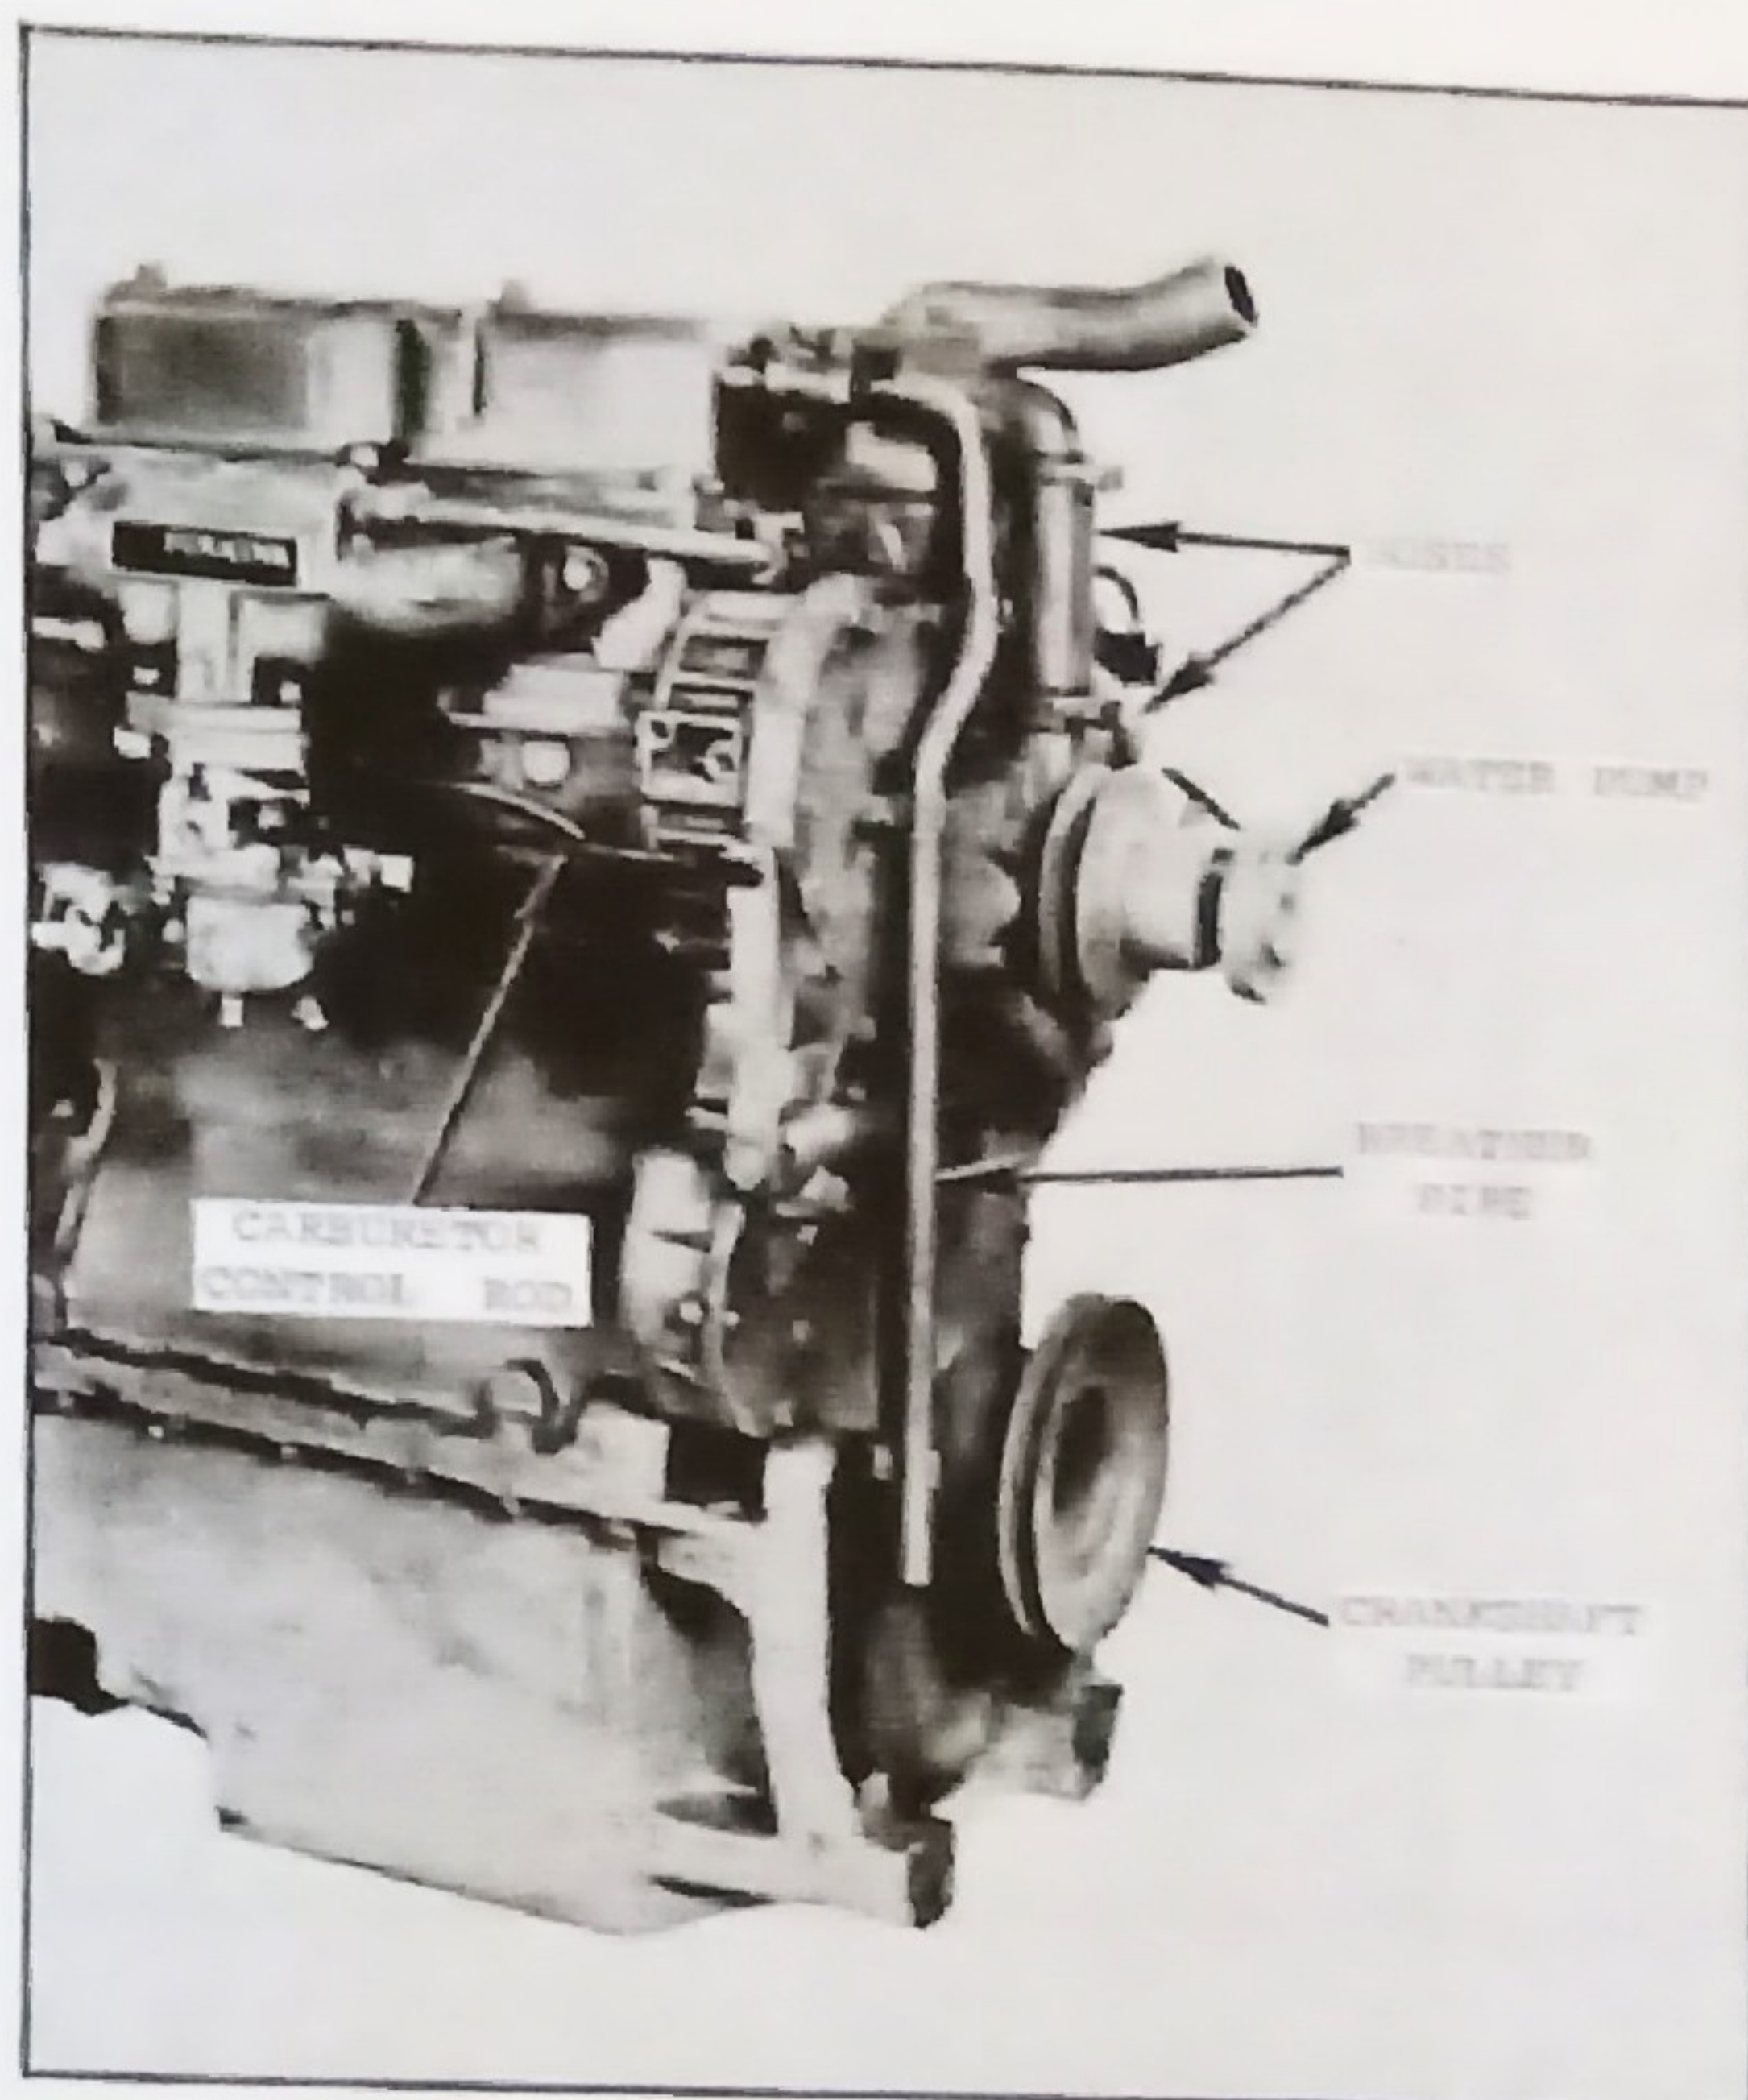

Fig. 30 - View of Timing Gear Cover and Related Parts
3. Disconnect carburetor control rod. Refer to Fig. 30.